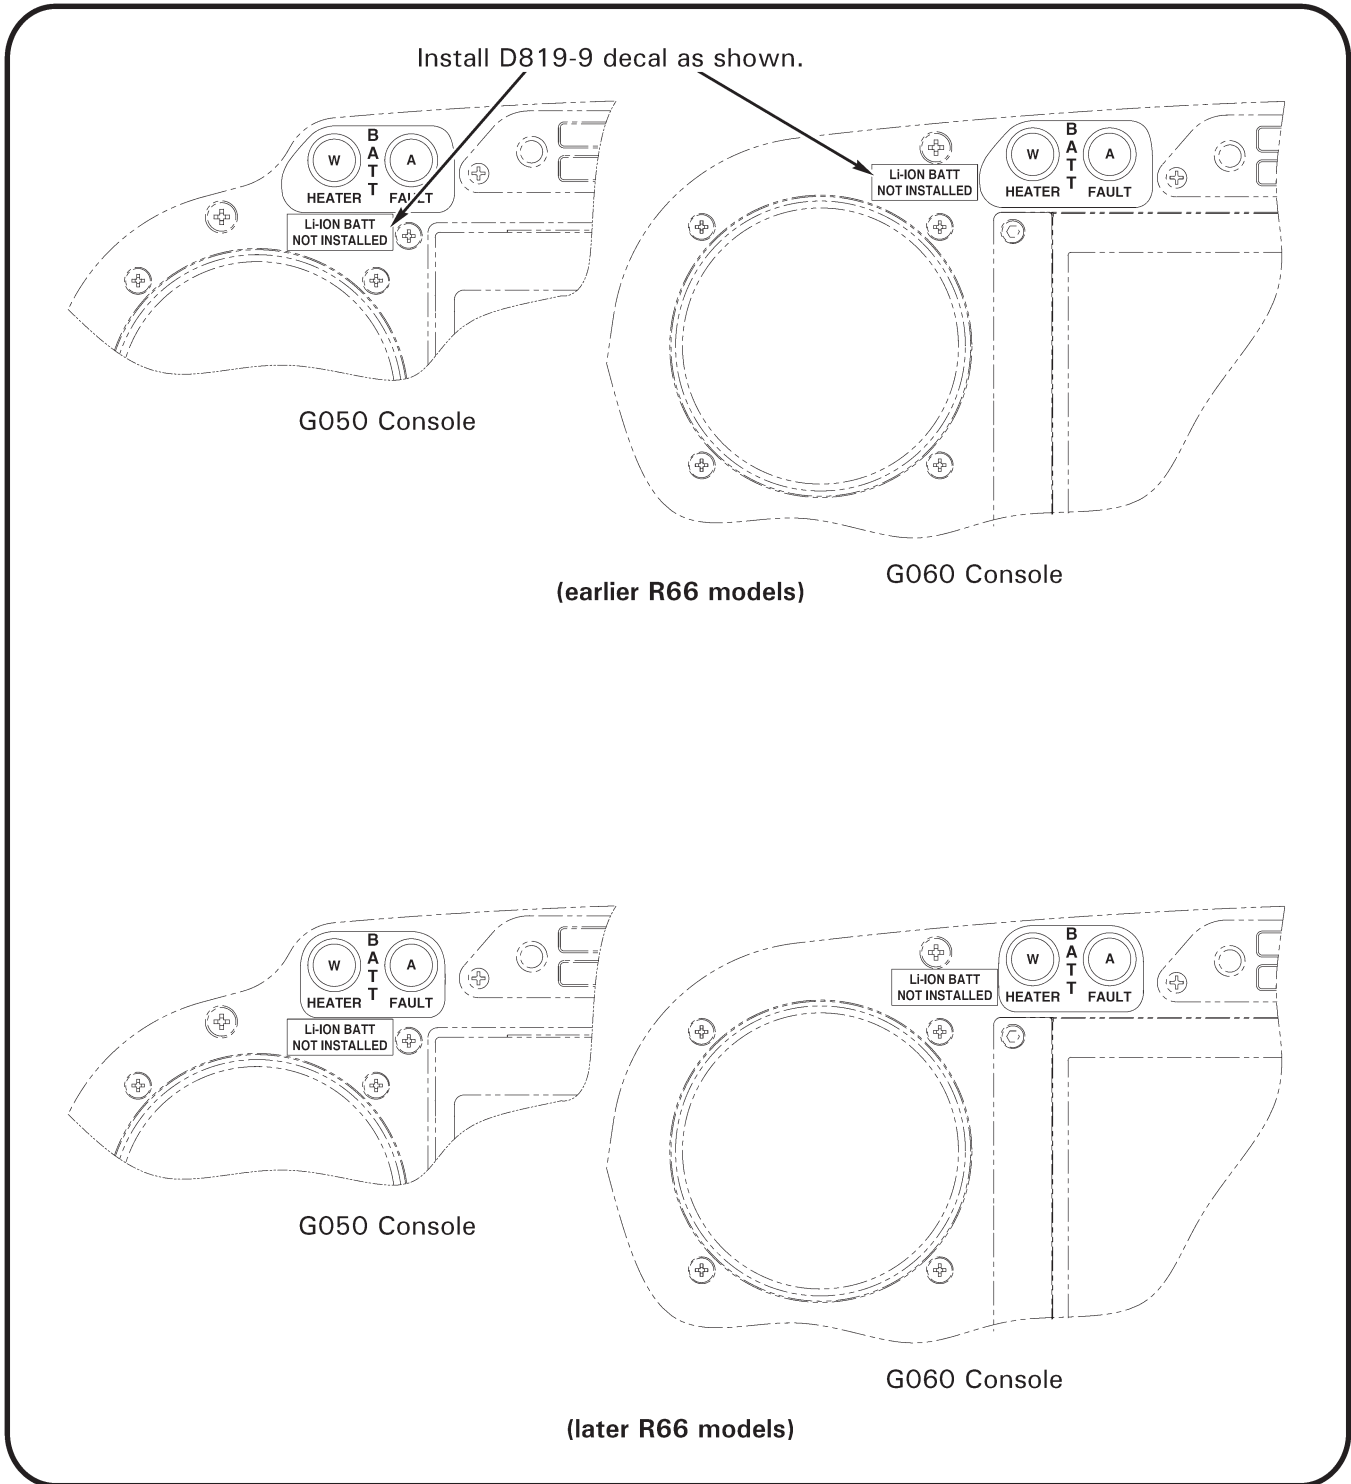

FIGURE 3
11. Refer to Figure 3. Install D819-9 decal as shown.
- 32. Remove R66 Pilot's Operating Handbook Page (see page 9 of kit instructions) in front of Lithium-Ion Battery Supplement in Section 9 of the R66 Pilot's Operating Handbook. Remove D819-9 decal from console (refer to Figure 3).